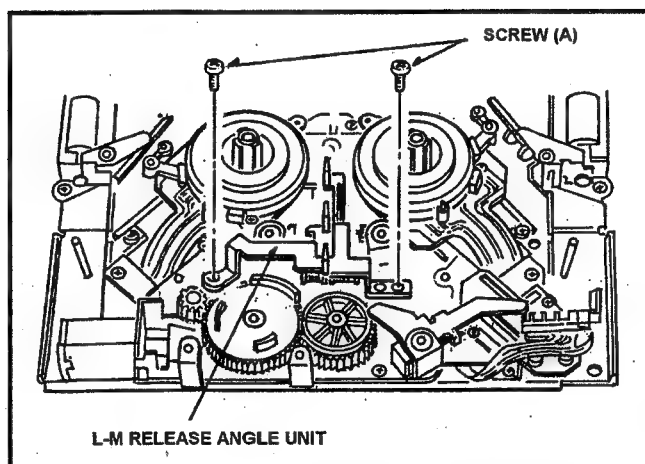

Fig. 6-21-1 Removal of L-M Release Angle Unit
3. Unscrew the 2 screws (A) and remove the L-M Release Angle Unit as shown in Fig. 6-21-1.